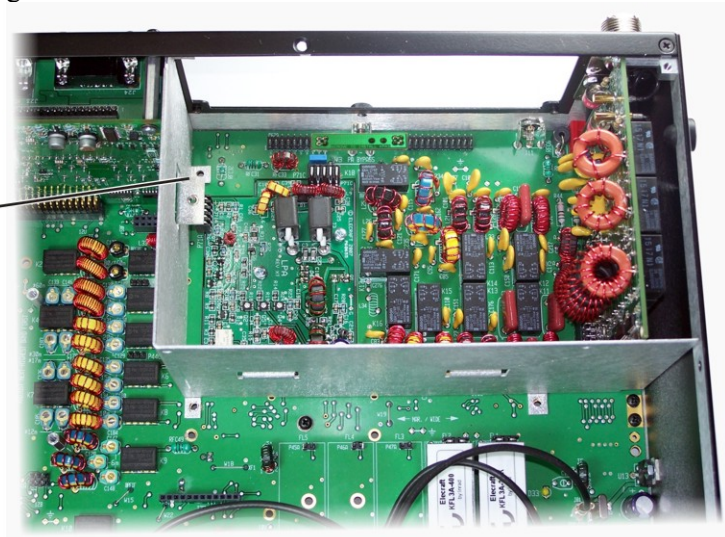

Figure 7. Positioning the Rear Shield.
- ☐ Set the rear shield in place as shown in Figure 7.